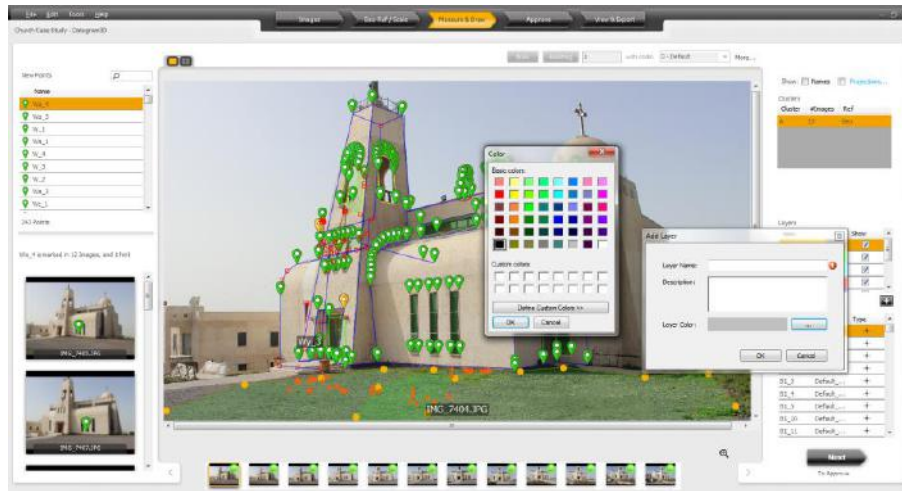

Figure 59: “Add Layer” Dialog Box with “Color” Selection Dropdown Box
1. Click on the + below the “Layers” list in the right pane, to open the “Add Layer” dialog box (Figure 59).